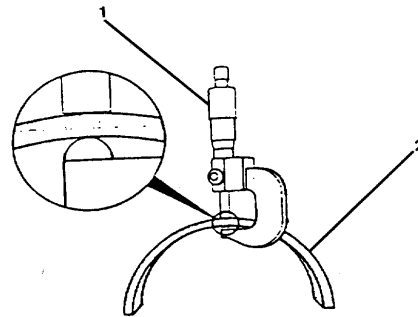

FIGURE 4-53. Bearing Shell (Sleeve) Measurement.
- f. Measure bearing shells (sleeves) (2, FIG. 4-53) with a ball point micrometer (1). See Table 4-4 for bearing thickness figures.